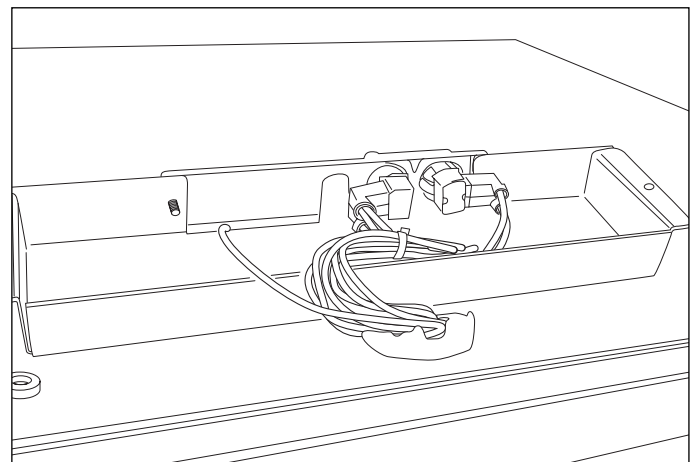

Figure 1
2. Remove trim piece at top of unit that covers switch box. Remove switch box by removing screws fastening it to top of unit (See Fig. 1).